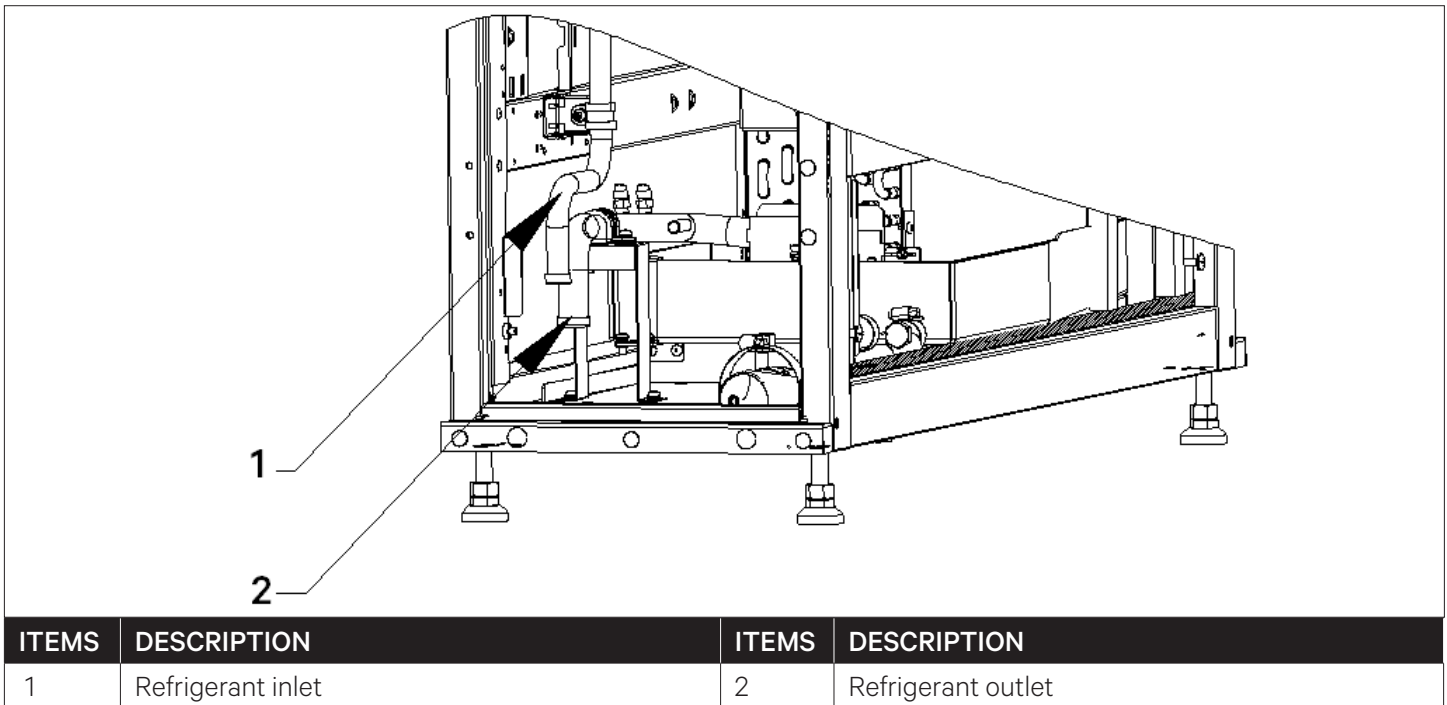
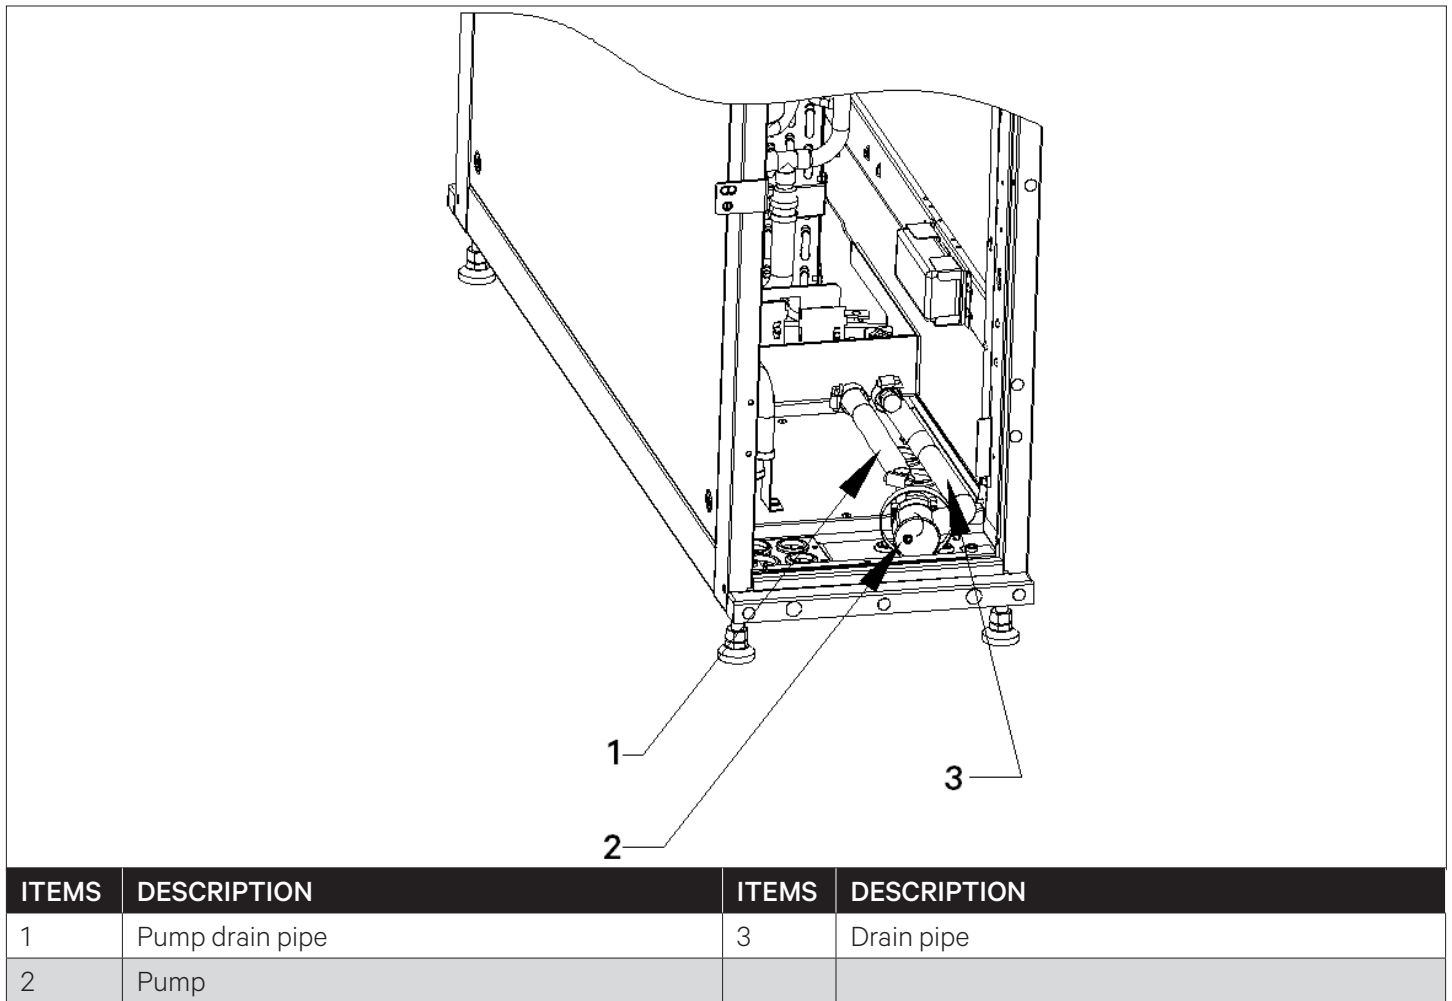
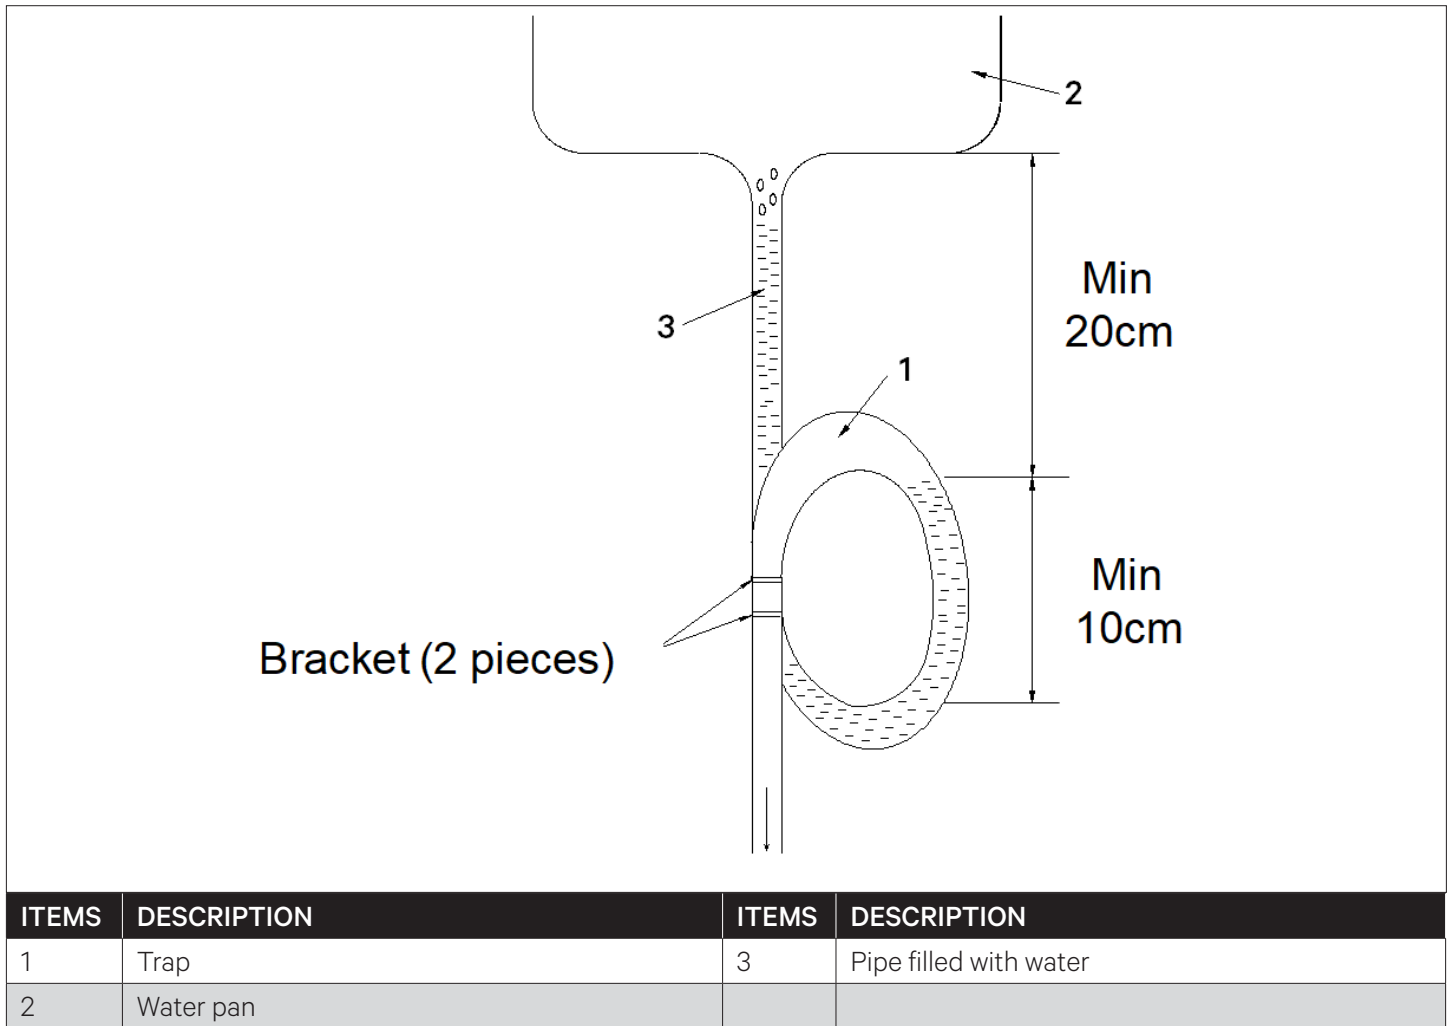

Figure 2-13 Bottom Piping of the Unit
Figure 2-14 Drain Piping Connection
Figure 2-15 Drainage Piping Trap
After removing the filter net, user can see the internal piping of the Vertiv™ Liebert® XDH unit, including the refrigerant inlet and outlet piping and the condensate drain piping. The specifications of the three piping are shown in Table 2-4, and the location of the pipeline is shown in Figure 2-13 and Figure 2-14.
- If the unit is equipped with a water pump, and the user needs to drain water from the bottom of the unit, route the drain hose through the drain hole under the water pump of the unit (there is a mark on the cabinet floor in Figure 2-14) and connect it to the condensate drain pipe on site.
- If the unit is not equipped with a drain pump, the drain pan comes with two drain ports, both of which drain naturally. When connecting on site, remove the drain Hose 1 and Hose 3 (factory default length is 2 m, and the outer diameter is 16 mm). The drainage hole under the water pump and the drainage hole under gravity are penetrated (refer Figure 2-14) and connected to the external drainage piping. In order to ensure that the condensate can be drained, a trap must be installed separately, as shown in Figure 2-15, and the requirements are as follows:
3. A trap (1) must be placed 20 cm below the water pan (2), and the trap must be placed in the raised floor below the unit.
4. Fill the trap with water (3).